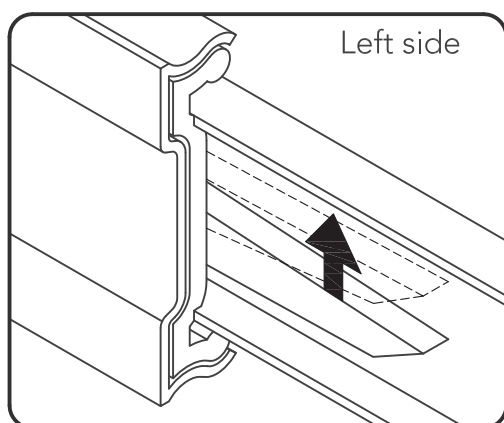

Figure 4
Note: To remove Drawer (G) in future, push plastic lever on left side up, push plastic lever on right side down and pull open. (See Figures 4 and 5)